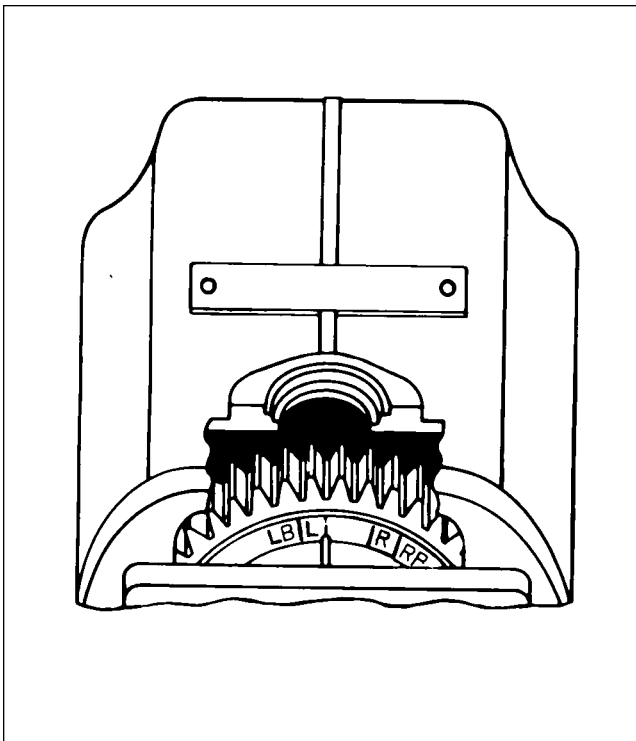

Figure 74-26. Aligning Timing Marks
- B. With distributor gear assembled to block, turn gear until raised rib on block lines up between the L and LB marks. Assemble block and gear into housing, meshing the distributor gears together. The rib should favor the L mark, if possible. (Refer to Figure 74-26.)